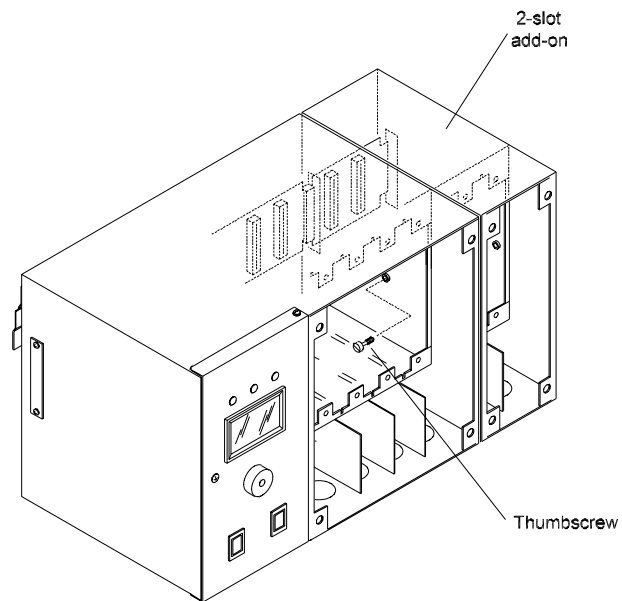

Figure 3.5 Securing the 2-slot add-on
Step 7: Use the thumb screw provided to secure the two chassis together as shown in figure 3.5. Use the provided mounting screw to attach the chassis mounting tab to the wall.